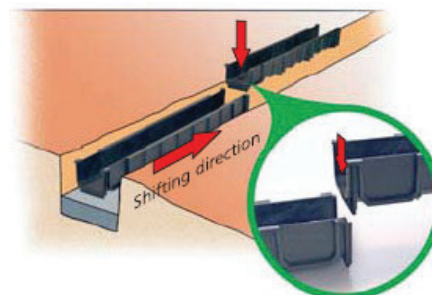

Figure 2.
2. After this, it is possible to start the laying of the drainage channels, first of all connect the end of the drainage channels with the next drainage channels and connect them with the drain pipe after laying (Figure 2.). In case of vertical drainage, cut the perforated opening and then the vertical pipe (Figure 3).